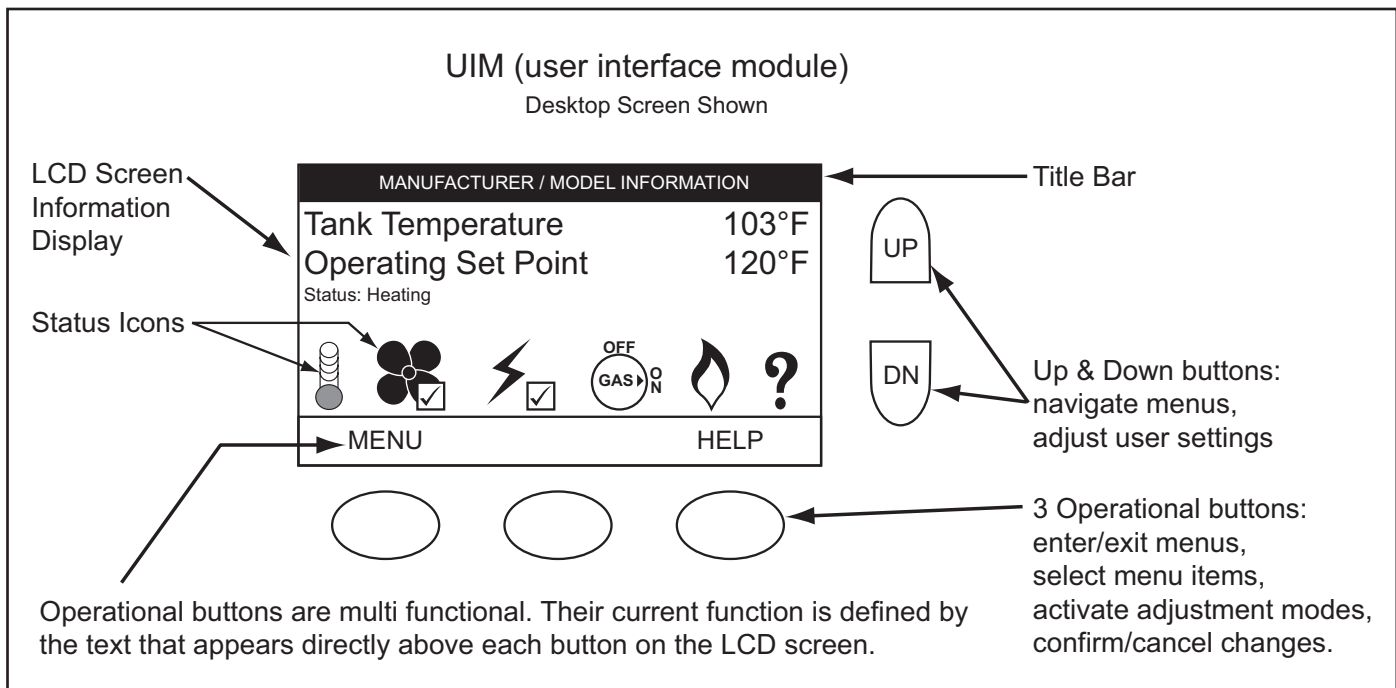

Figure 55
All operational information and user settings are displayed and accessed from the UIM. The UIM houses the control system's LCD (liquid crystal display) and five snap acting (momentary) user input buttons; an up, down and three (3) multi functional operational buttons below the LCD, see Figure 55.
The Status Icons are displayed on the Desktop screen and convey operational and diagnostic information. The icons are described in the table below. See Figure 55 on page 42 and the Sequence Of Operation on page 54.
The current operational state of the water heater is displayed on the Desktop screen as the "Status." The common operational states are described in the table below. See Figure 55 on page 42 and the Sequence Of Operation on page 54.